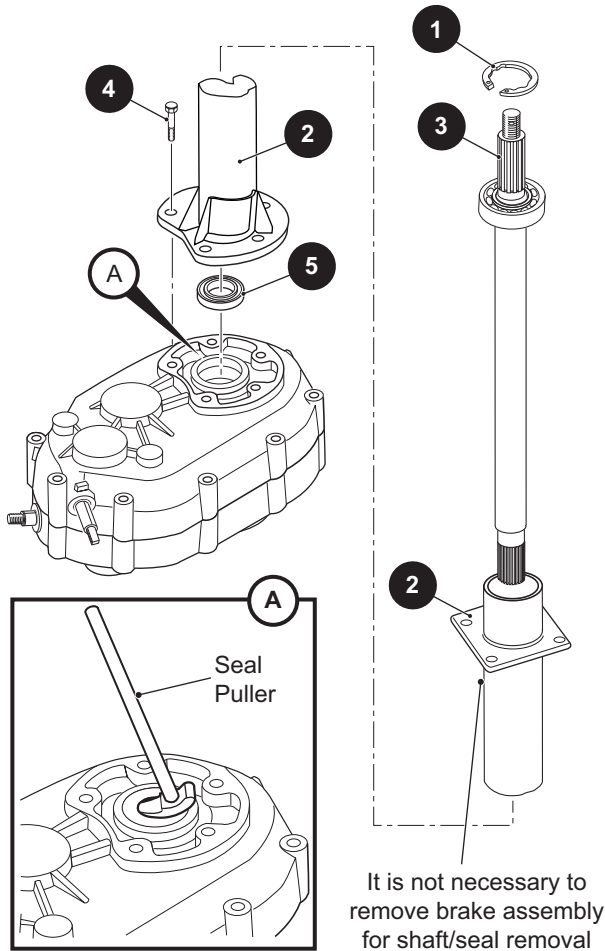

Fig. 6 Removing/Installing Seal
1. Using snap ring pliers, remove the bearing retaining ring (1) from the end of axle tube (2) (Ref. Fig. 6).
2. Carefully pull the axle shaft (3) and bearing out of the tube.
3. Remove the bolts (4) attaching the axle tube to the casing and carefully lift the tube from the casing studs.
4. Using seal puller, remove the axle shaft seal (5) from the casing.